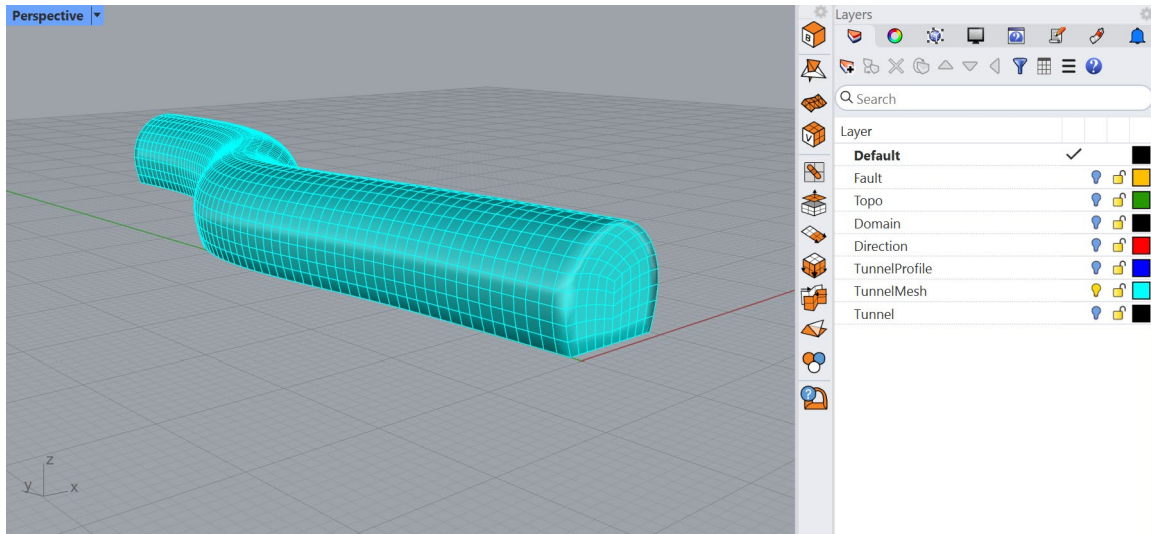

Figure 58: Surface mesh corresponding to the exterior of the tunnel's structured volume mesh.
27. Select all 21 solids corresponding to the tunnel excavation stages and type the **_BR** command or click on the  icon in the *Griddle* toolbar. Use all default **BlockRanger** parameters and set *GenerateSurfaceMesh = ByModel*. **BlockRanger** will create a structured volume mesh for the tunnel and will output it at the user-specified location (keep *FLAC3D* binary format as output format). **BlockRanger** will also create surface mesh corresponding to the tunnel’s external surface and will output it into *Rhino* (Figure 58). This surface mesh will be used to create an unstructured volume mesh outside the tunnel.
28. Create new layer “TunnelMesh”. Change the layer of newly created surface mesh from “Default” to “TunnelMesh”. Now turn off layer “Tunnel”, leaving only one layer active as shown in Figure 58.
To create an unstructured domain mesh that is conformal with the tunnel structured mesh, bounding surface mesh presented in Figure 58 will be used.